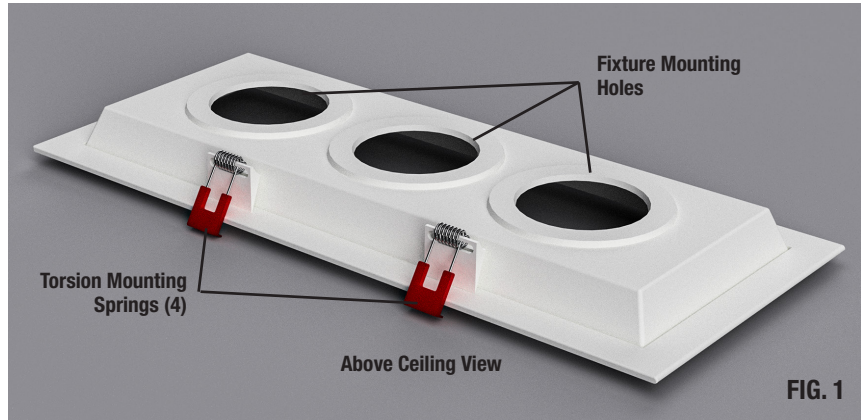

FIG. 1
CONSULT MINI-TASK INSTRUCTION SHEET FOR DIRECTIONS ON HOOKING UP MINI-TASK FIXTURES. USE QR CODE IN FIG. 1 TO ACCESS.
1. Familiarize yourself with the RMP Regressed Mounting Plate (Fig. 1). Installation is simple and straight forward. Make sure you are able to depress side springs. If you are not able, employ the assistance of another person who can depress springs while you steady the RMP Regressed Mounting Plate. NOTE: RMP PLATES REQUIRE A DRYWALL OR PANEL THICKNESS OF 1/2" - 3/4" (Fig. 3). DO NOT MOUNT RMP PLATE ON SLOPED CEILINGS.